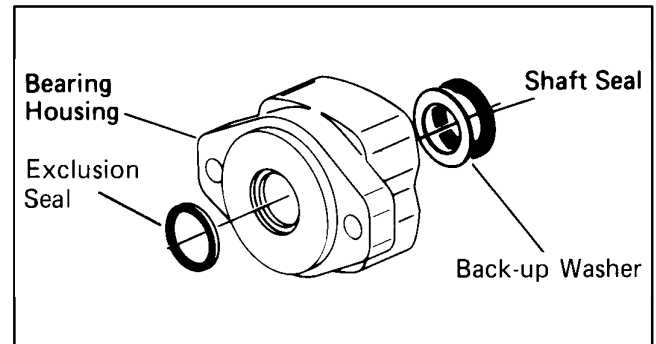

Figure 78
20. Use a small screwdriver to remove shaft seal, back-up washer and exclusion seal from bearing housing, see Fig. 78. Do not damage bore of housing.